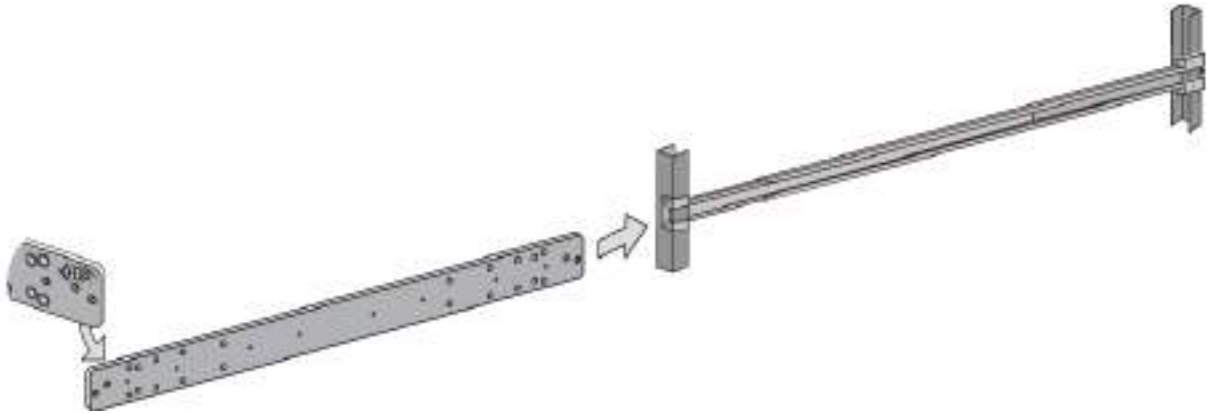

Figure 86. Inserting an Inner Rail into an Outer Rail
1. Slide one of the inner rails into an outer rail. Be sure that the UP arrow on the inner rail is pointing up. Refer to Figure 86 on page 145.